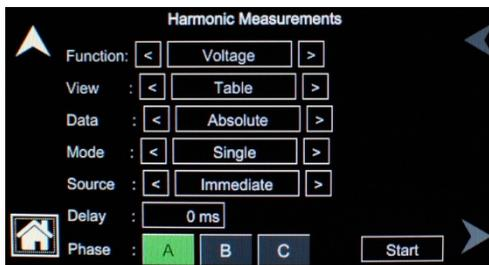

Figure 4-18. HARMONICS Menu
- START** ***HARMONICS menu:*** Starts a new acquisition run. When the start field is selected, and after the trigger event occurs, the display changes to the data display mode that was selected in the VIEW field of the HARMONICS menu; refer to Figure 4-18. To return to the HARMONICS menu, tap the HOME button while in the data display screen.